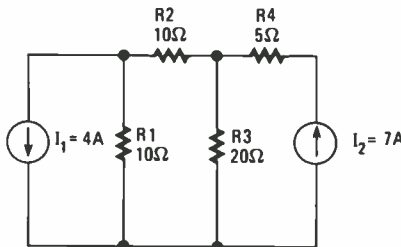

Fig. 10. Make use of superposition when analyzing this circuit.
4. Find the current in R3 in the circuit in Fig. 10.